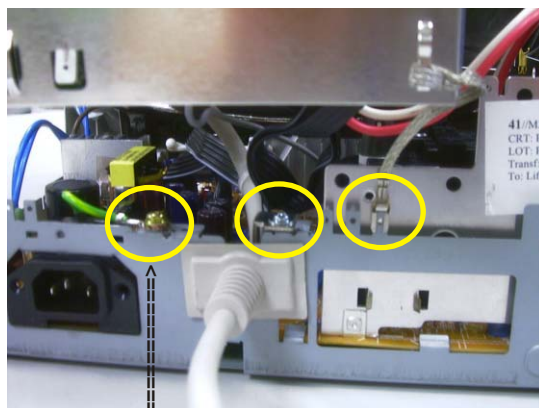

Fig. 7
- Remove the "screw" of I/F cable from Main panel, grounding screw, wire as shown in Fig. 7..